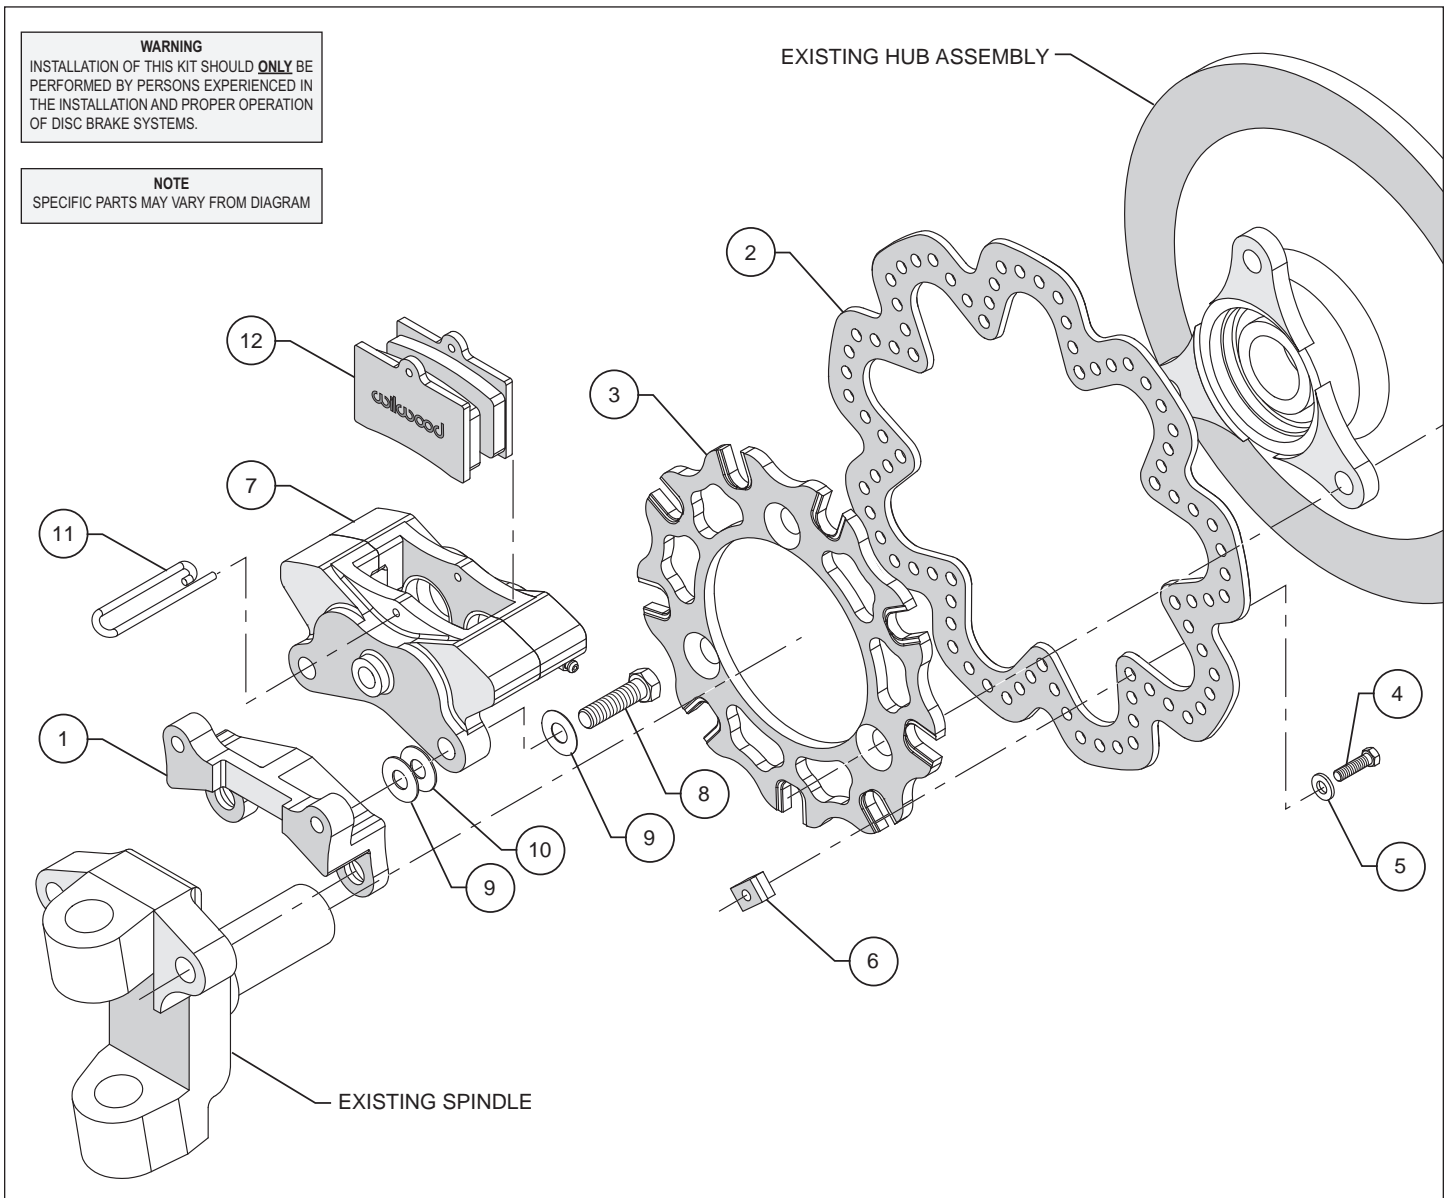

Figure 1. Typical Installation Configuration
- The caliper mounting bracket assembly (1) should be installed first with clean, dry threads on the mounting bolts. Install the bracket on the outboard side of the spindle by sliding customer furnished bolt and washer through the mounting holes and into the backside of the spindle (see Figure 1). The bracket must tighten squarely against the side of the spindle body. Inspect for interference from casting irregularities, machining ridges, burrs, etc.
- Mount the rotor adapter (3) with the notched t-nut slots facing inboard to the rotor (2) using bolts (4), and washer (5) slid through rotor holes from the outboard side and into the t-nut (6). Apply red *Loctite*® 271 to the bolt threads and torque bolts (4) to 120 **in-lb**.
- Slide the rotor/adapter assembly onto the hub assembly and secure using customer supplied hardware by sliding the bolt thru the ears on the hub assembly from the outboard side and screw into the adapter (3).
- Install the caliper (7) on the outboard side of the bracket (1) by sliding bolt (8) thru washer (9) and into the caliper mounting bracket (1). Initially place one shim each (9 and 10) between the caliper (7) and caliper bracket (1). The caliper bleed screws should be horizontal to the bracket (1). Snug the bolts (8) and check that the rotor (2) is centered in the caliper (7). Add or subtract .035" shims (9) and/or .016" shims (10) as necessary between the caliper mounting bracket (1) and the spindle to center the caliper (7) on the rotor (2).
- Remove the pad pin retainer (11) from the caliper (7). Slide the brake pads (12) into place. They should install easily without interference. Reinstall the pad pin retainer (11).